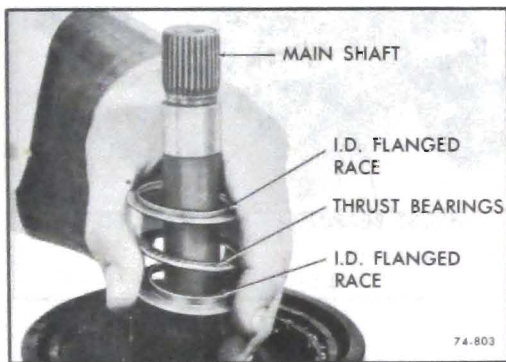

Figure 76-561
3. Remove center support to sun gear races and thrust bearing. See Figure 76-561.